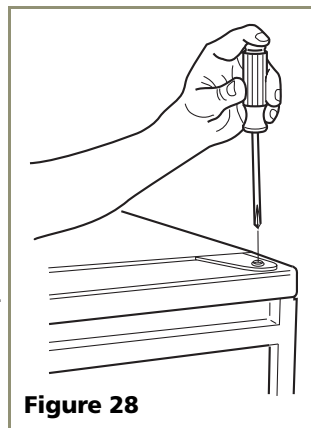

Figure 28
1. Remove top hinge screw pin (Phillips screwdriver, see **Figure 28**). Remove door by tilting forward and lifting off bottom hinge pin.